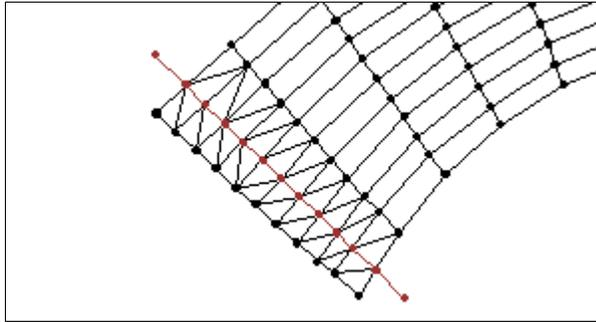

Figure 3-25 The breakline has been inserted.
3. Select *Elements | Add Breaklines*. The elements will be split along the nodestring, as shown in Figure 3-25.